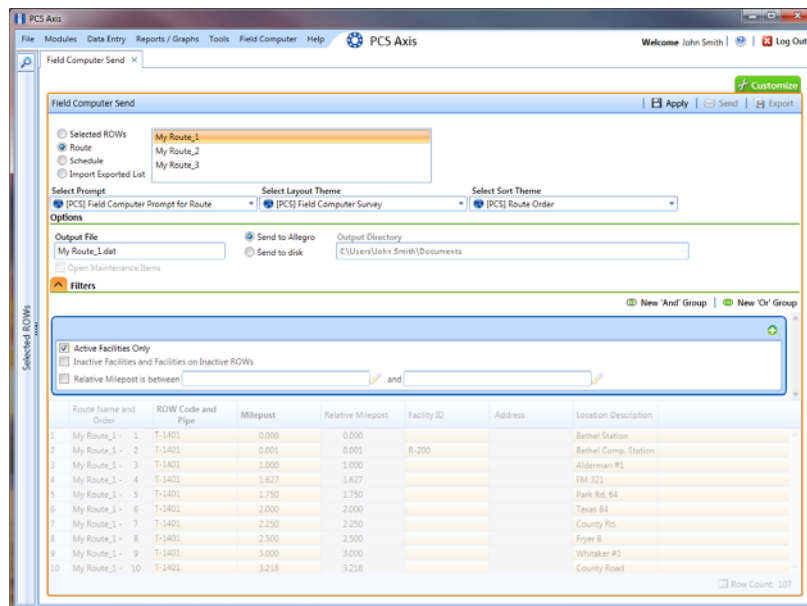

Figure 7-37. Filters
- b Select one or more options in *Filters*. For example, click **Active Facilities Only** to only include active facilities in the grid and in the route sent to the Allegro (Figure 7-37).